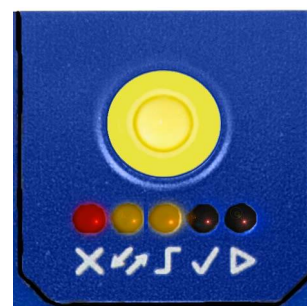

Figure 10 - X-PRESS Interface; Aim/Autofocus Function
4. Release the button to enter the Aim Mode. The aiming system turns on, and the Autofocus procedure begins, see Figure 10. The Aim LED will blink until the procedure is completed.